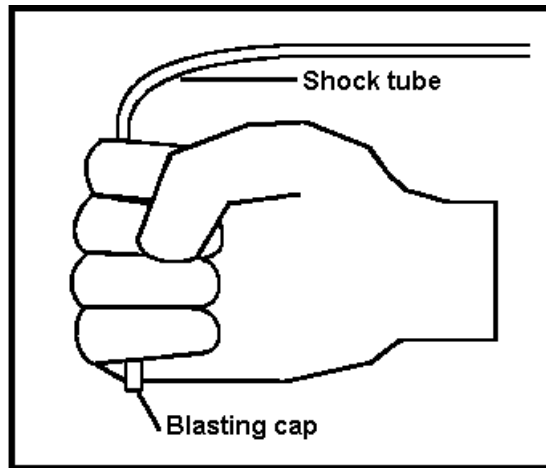

Figure 051-193-1311-11
- (1) Remove the blasting cap from underneath the sandbag.
- (2) Secure the blasting cap in one hand. Ensure that the cap is completely enclosed in the hand and facing down and away from the thumb (Figure 051-193-1311-11).